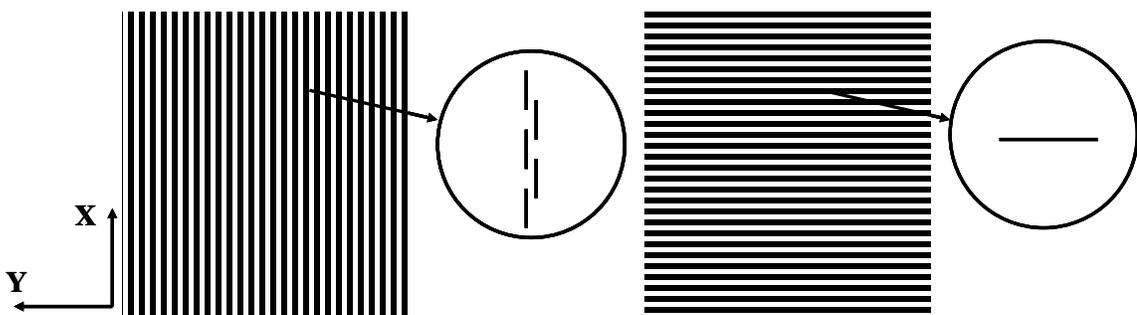

Figure 4. Array of parallel lines indicating proper alignment with the machine axes
- Mirror and Rotation options are available if changing rotational orientation of a pattern or mirroring a pattern is desired. Rotation is discussed here. Figure 4 illustrates proper rotation for an array of parallel lines. The DWL 66fs exposes
features continuously (referred to as “writing stripes”) in the Y direction, and steps in the X direction. In the left of Figure 4, lines are oriented parallel to the X axis. The result is individual lines that have a piece-wise stitched appearance due to stepping in the X direction. The proper array alignment is depicted at the right, where lines are oriented parallel to the Y axis and are exposed in a continuous fashion. Select the Rotation feature to orient the pattern such that long, continuous features are aligned parallel to the Y axis as shown.
oriented with the X-axis in the mask design as shown in Figure 4. The resulting stitching errors left a gap at the junctions of the line segments. When the process substrate is etched following lithography with this mask, the result is an array of lines with periodic bulges as shown. Adding one extra pixel (enter a value of 1 in the Add Pixel field) at the end of each line OR orienting the line segments with the Y-axis as suggested in Figure 4 eliminates the defect. **Note: the manufacturer recommends adding at least one pixel to all conversions that use the 10mm or larger write lens.**